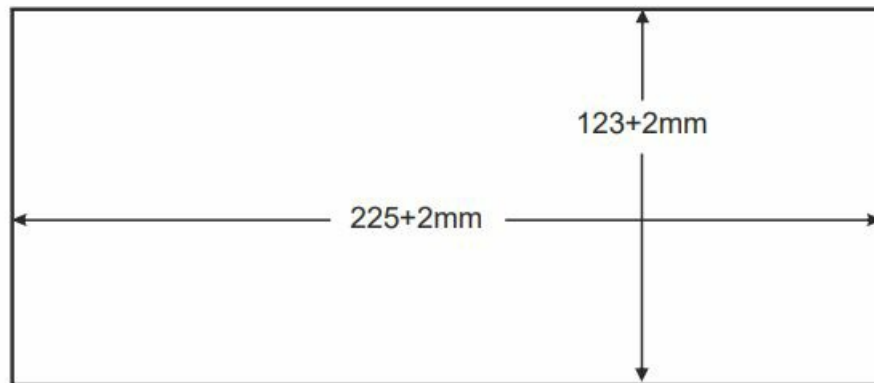

Figure 4: Cut out Dimensions
3. Following the inside edge of the template, cut a hole in the table surface with a saber or keyhole saw according to the dimensions shown in Figure 4 (not to scale).